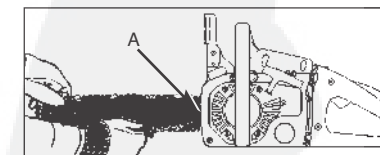

Fig. 5
1. Hold nose of guide bar up and turn adjustment screw (A) CLOCKWISE to increase chain tension. Turning screw COUNTERCLOCKWISE will decrease amount of tension on chain. Ensure the chain fits snugly all the way around the guide bar (Fig. 5).